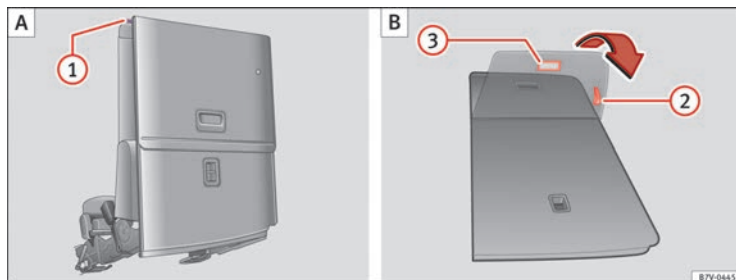

Fig. 91 Third row of seats: fold down the rear seat to load **A** then return to position **B**
- If necessary, pull on the lever ⇒ Fig. 91 ② to move the seat to the required position.
- Remove objects from the footwell in front of and behind the rear seat ⇒ ④.
- Pull lever ⇒ Fig. 91 ① back and fold the seat backrest forwards. The rear seat folds forward ⇒ ⚠ and the cushion also moves forward.
- Pull on the handle ⇒ Fig. 91 ② to put the seat tray back in position.
- Pull on the handle ⇒ Fig. 91 ③. The entire seat folds backwards.